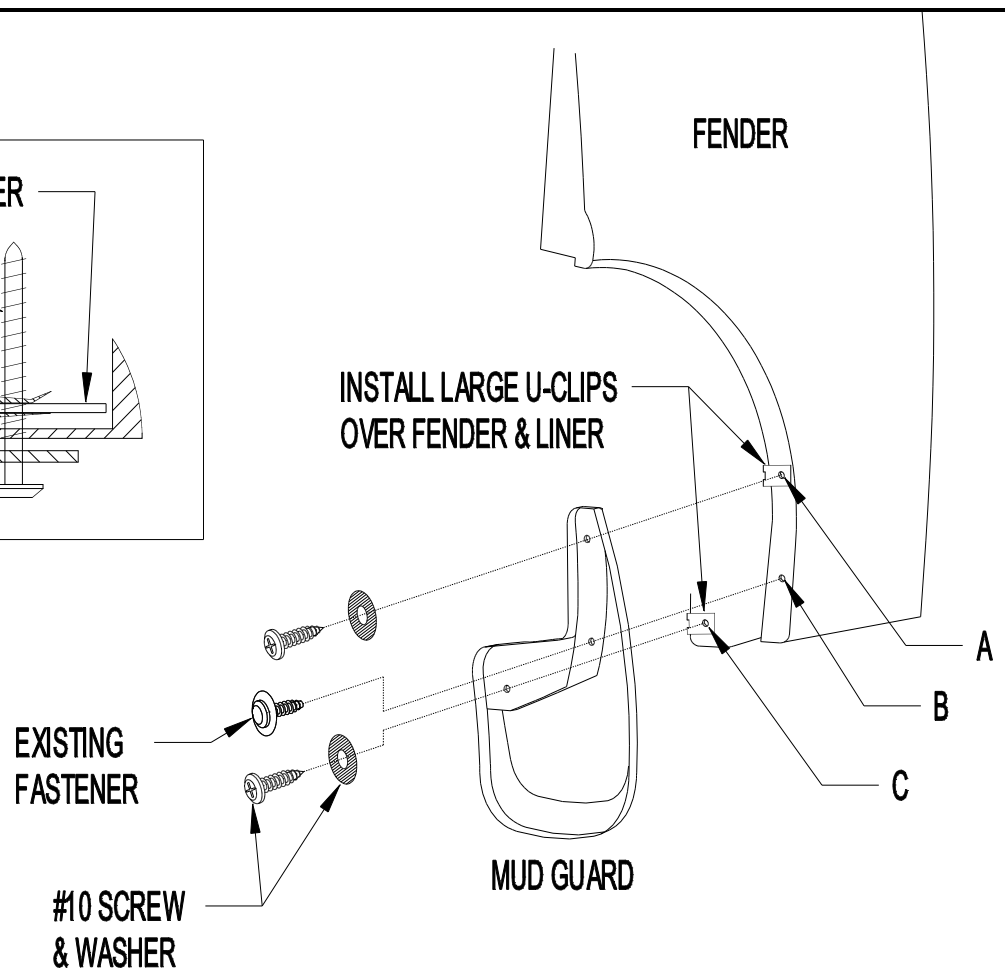

Figure 1
1. Remove existing fastener from location B (Figure 1).
4. Remove mud guard and install u-clips at locations A and C. Install u-clips over fender and fender liner and align drilled and u-clip holes (Figure 1 and 2).